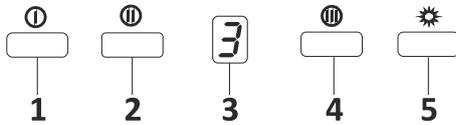

Fig. 18: 3 Spd Dig Button
1. ➤ Press this button to turn on the product. Product will also run on 1st speed level when this button is pressed. Fig. 18
2. ➤ Product will run on 2nd speed level when this button is pressed. Fig. 18
3. ➤ Dig display You can follow which speed the product is currently working on this display. Fig. 18
4. ➤ Product will run on 3rd speed level when this button is pressed. Fig. 18
5. ➤ Press this button to turn on and off the lamp. Fig. 18
6. ➤ Pressing and holding any of the motor operation buttons for more than 2 seconds will initiate a timer function of 15 minutes. A signal will be Displayed once the timer starts and the motor will stop automatically after 15 minutes. Fig. 18